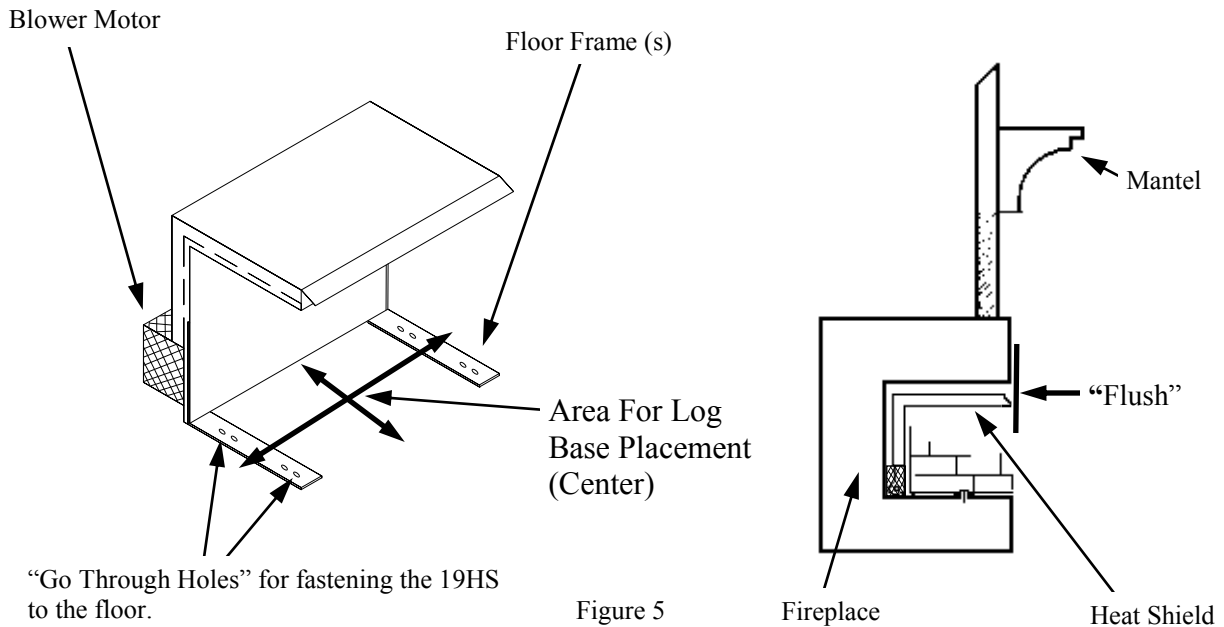

Figure 5
**NOTE:** Centrally locate the Heat Shield in the fireplace and place it deep enough into the fireplace to accomplish adequate draft (if use as a vented heater is planned). Ensure that the Heat Shield front is inside the front edge of the fireplace, see Figure 5. Using the screws and anchors provided, fasten the Heat Shield to the floor of the fireplace. On each side of floor frame of the Heat Shield base, there is a “go through hole”. Position the Heat Shield as described above. Mark the hole for drilling. See Figure 5.